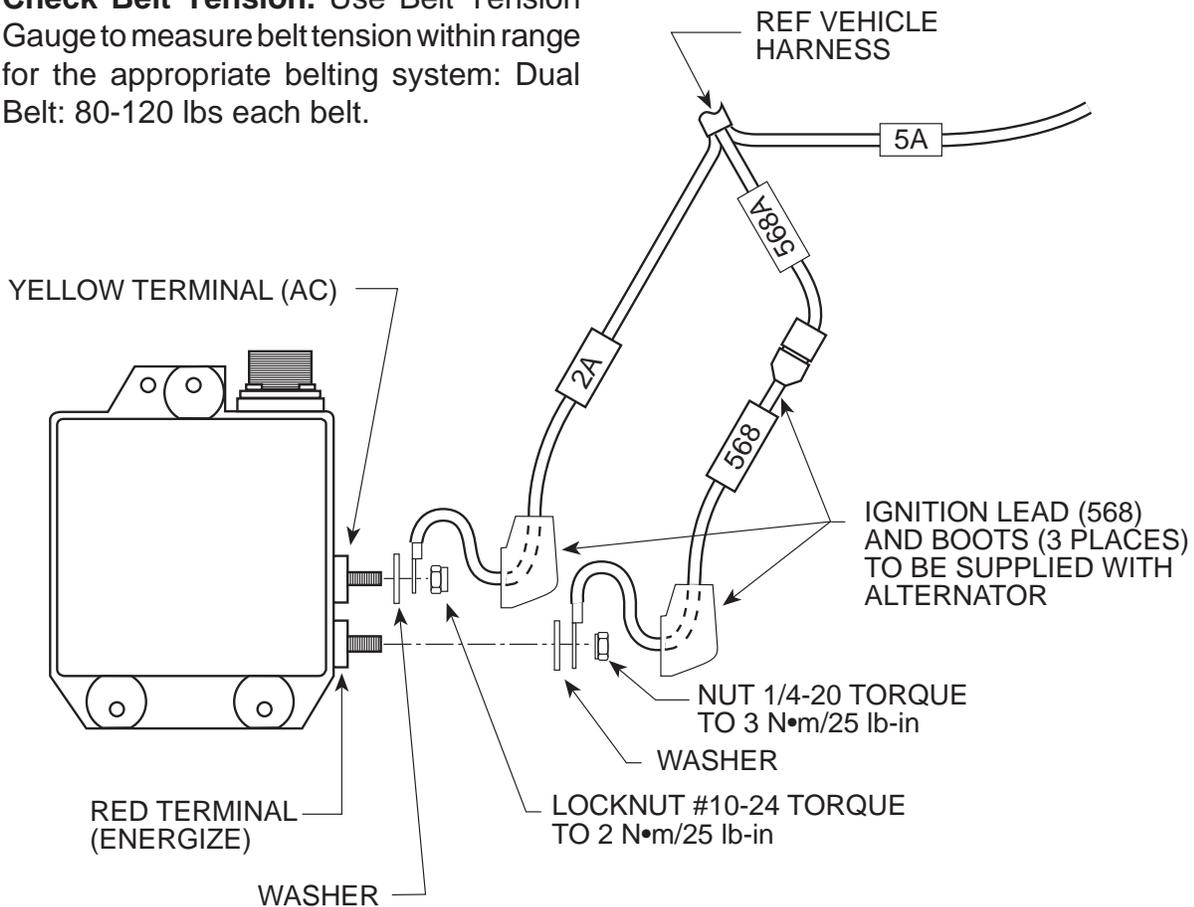

Figure 12-7.
Refer to Figure 12-7 for the following steps.
F. NEIHOFF 100 AMP ALTERNATOR TESTING (Figure 12-7 through 12-9.
- 4. Check Ignition Circuit.** If alternator is not charging, check for voltage at the alternator energize terminal (Red Terminal). Refer to Figure 12-7 for energize terminal location on the outside of the regulator. Look for 24V nominal.